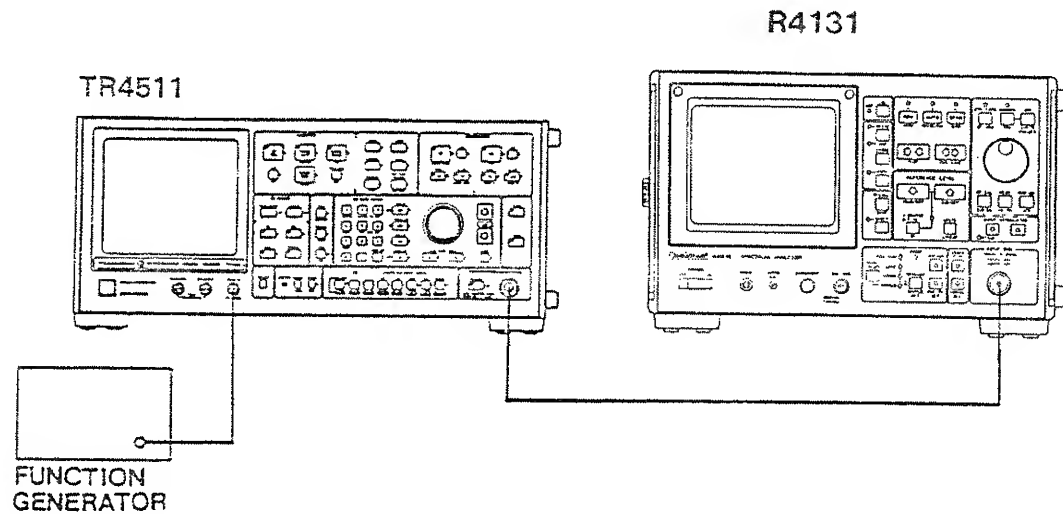

Figure 11-2 Frequency Span Test Setup
- ⑫ Next, perform frequency span 200 kHz to 50 kHz tests using the same setup as shown in Figure 11-2.
- ⑬ Set the output of the TR4511 synthesized signal source as follows: